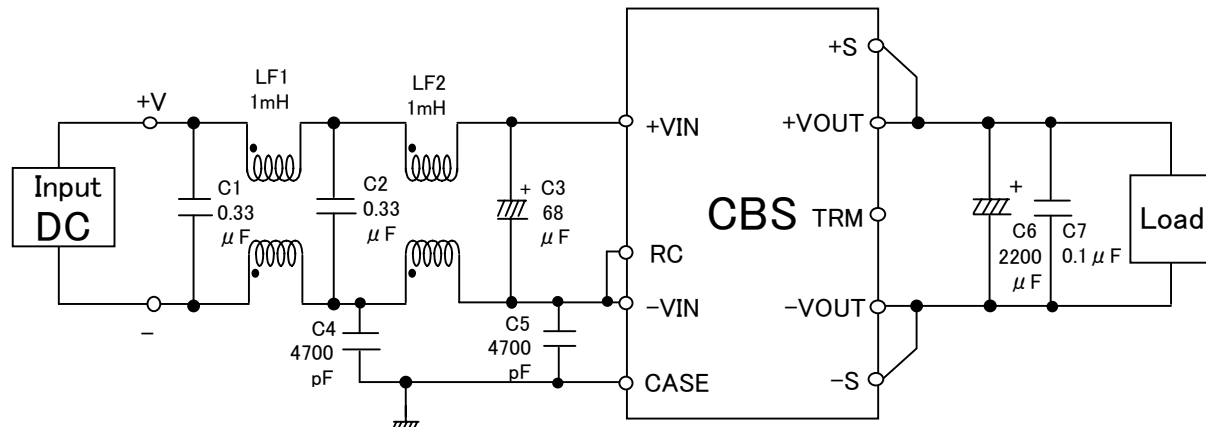

Fig.1 Testing circuitry
(1) Input : DC24V
(2) Output : Rated output
(3) Ambient temp. :  $25 \pm 10^{\circ}\text{C}$
(4) Testing circuitry : Fig.1